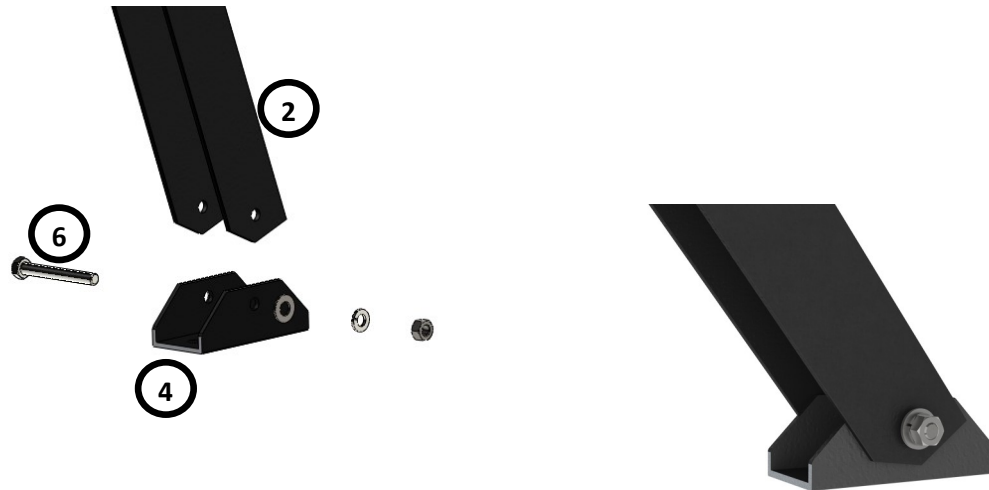

Figure 3
1. Mark the location of the two (2) rear feet on the main mounting surface as outlined on tables 2-7
3. Position the rear leg on the rear foot with the opening of the channel facing the front foot. Insert fastener assembly thru rear foot and rear leg. As shown in Figure 3.